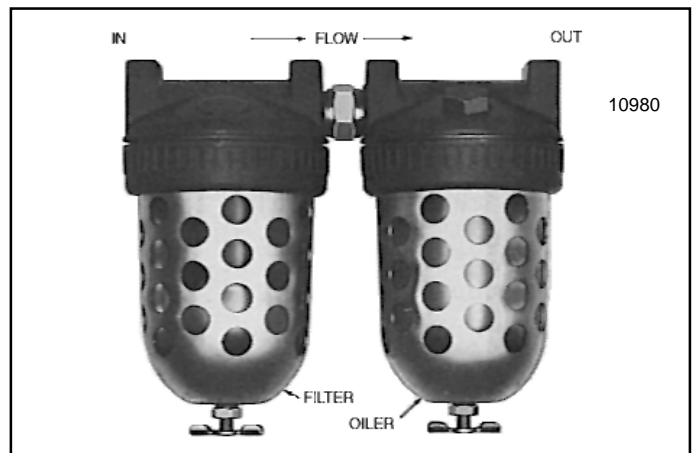

Figure 2-2. Air Filter and Lubricator Unit
- A filter and lubricator unit (Figure 2-2) must be installed between air source and hoist, as close to hoist as possible. These keep air flowing to hoist free of dirt and add lubricant to air so internal parts of motor are constantly lubricated. Use a good grade of spindle oil, approximate viscosity 180 ssu at 100° F., air powered tool oil, or S.A.E. 10W machine oil. Yale•Lift-Tech distributors can provide filter-lubricator units.